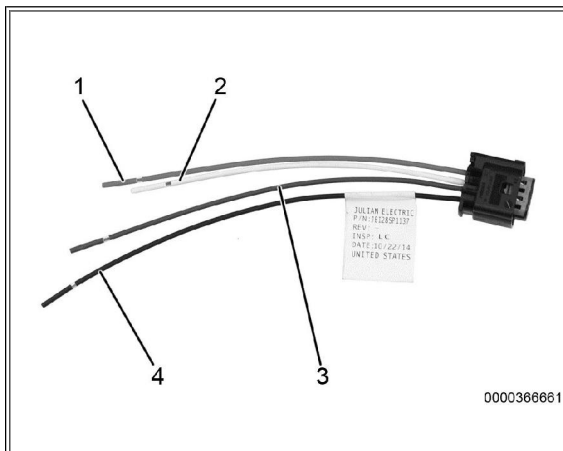

Figure 9: Pigtail
34. Prepare existing PT jumper harness by trimming wire lengths to properly align to new PT sensor connector pigtails (Figure 9, Items 1-4).